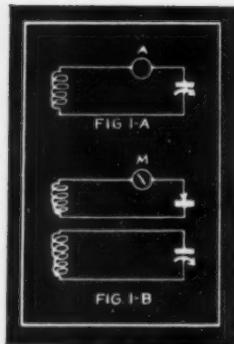

FIG. 1A-1B
**T**HE determination of frequency is one of the major problems confronting the amateur. In its simplest form a frequency meter consists of a coil shunted by a variable condenser, with some method for indicating when the meter is in tune or resonance. Figure 1A shows the use of a hot wire or a thermocouple ammeter as the resonance indicating device. In figure 1B we see a crystal detector and milliammeter coupled by means of a few turns to the frequency meter, to indicate resonance. This particular method has the advantage that damage to the meter M will not affect the calibration of the instrument. While these meters are useful and absolutely indispensable in general radio laboratory work, they have no place in the amateur station as accurate frequency checks.